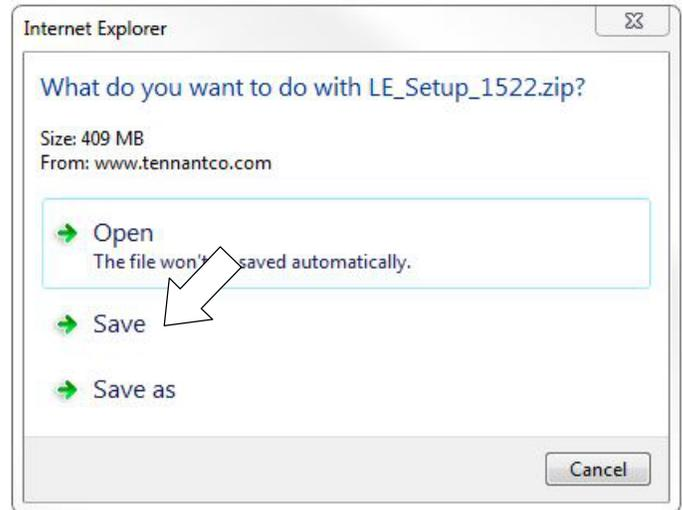

Fig. 21
5. To download the service software continue to click as instructed then click the Save button (Figure 21).